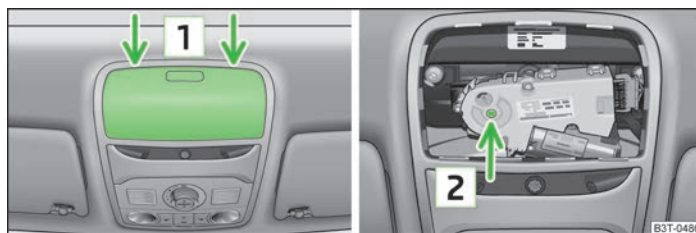

Fig. 29 Point for positioning screwdriver/opening for positioning the key
- Carefully insert an approximately 5 mm wide screwdriver into the slot in the positions shown by the arrows **1** » Fig. 29.